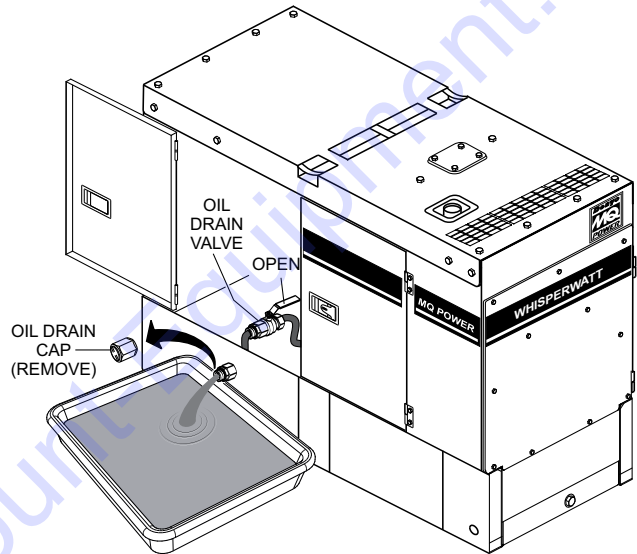

Figure 68. Draining Engine Oil
3. Remove the **oil drain cap** (Figure 68).